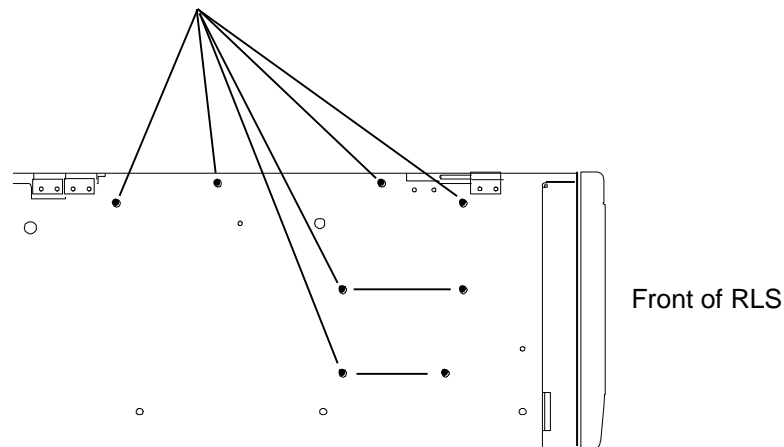

Figure 9-4 Interconnect PCBA Mounting Screws (Left Side)
8. Remove the eight No. 1 Phillips screws that secure the Interconnect PCBA from the left side of the chassis as shown in Figure 9-4.